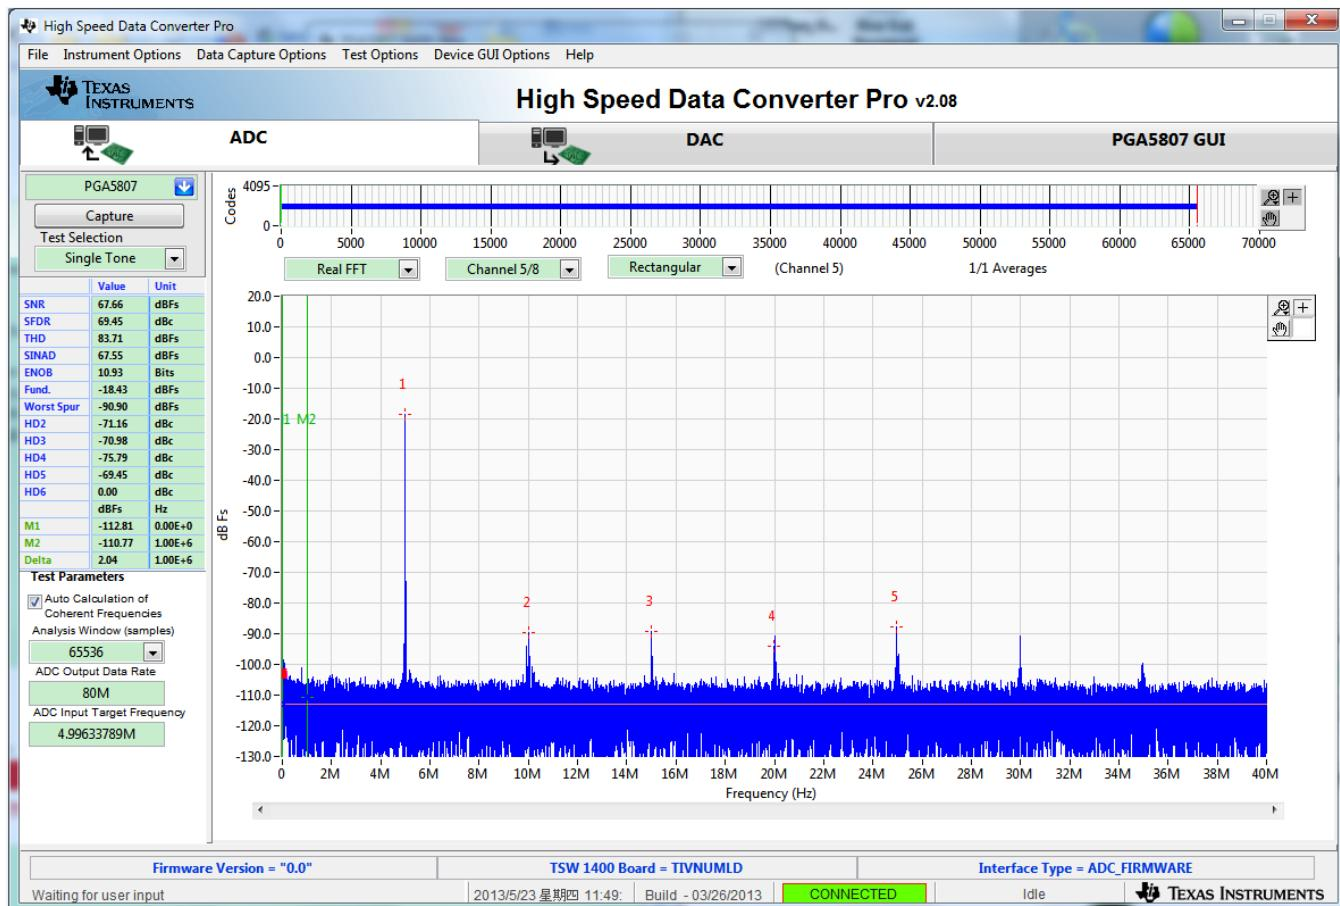

Figure 49. PGA5807A + ADS5296A Gain Test Capture 3
7. Click on the **ADC** tab and press the **Capture** button to see the result shown in Figure 49.